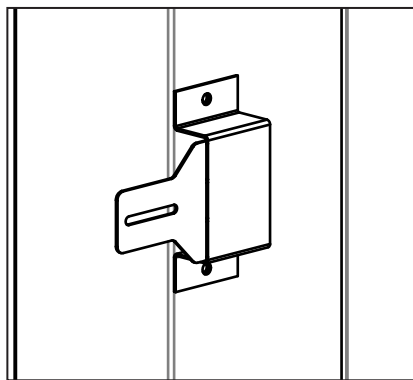
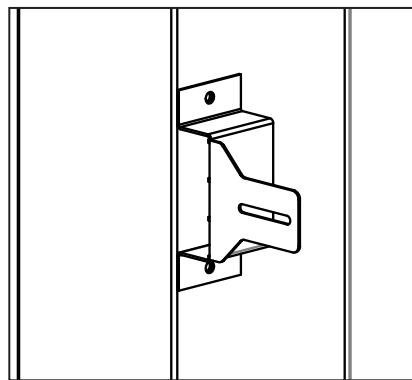

Figure 29: Nailing Flange Flat
Figure 30: Nailing Flange Assembled
There are four (4) nailing flanges to secure the unit to the framing, they are assembled flat from the manufacturer (see Figure 29). Flip the nailing flanges up 180 degrees and secure in place using the T-20 screws above pre-installed in the cabinet. Bend the flanges 90 degrees making them flush with the cabinet face (see Figure 30).